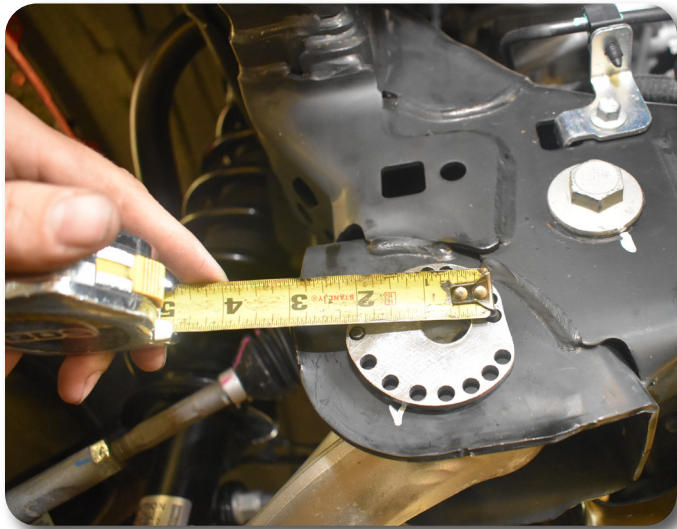

Figure 4
8. Noting the position of the OE cam bolt when removed. Install the bolt side cam plate (cam plate with the larger hole) on the front side of the control arm pocket into the pins **Figure 4**. The center of the hole on the cam plate to the inner pin measurement should be the same or within an  $1/16$ " to the measurement that was recorded earlier. If it is not, then the cam needs to be moved to the next hole position.